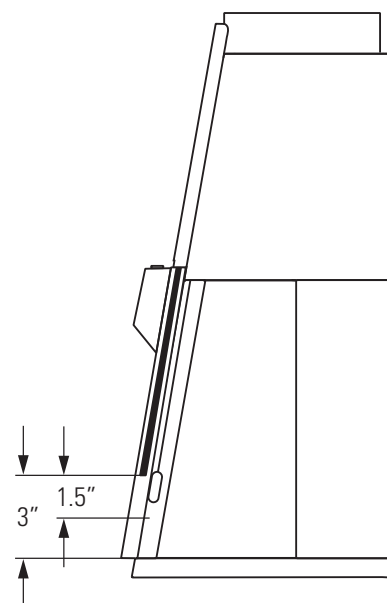

Figure 8-1. Constricted Window Method
3. Insert the thermal anemometer probe into the probe holder. Place the probe holder at the window opening work surface, ensuring it is seated properly. See Figure 8-1. Adjust the probe so the air passing through probe is centered in the window opening (1.5 in. [3.8 cm]).